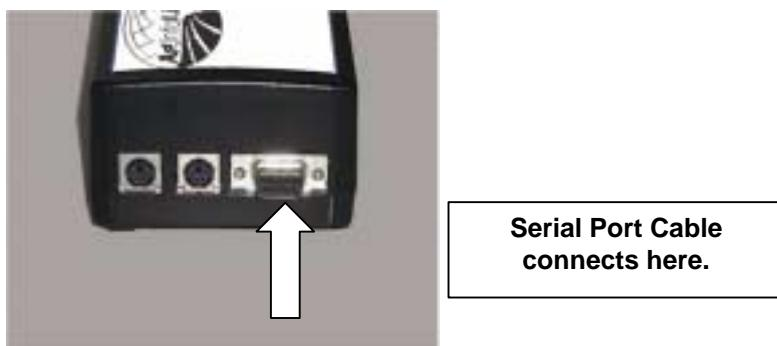

Figure 4
- Using the provided Serial cable, plug the appropriate end into the 9-pin port (DB9-F) on the Tag Tracker Base Station. (See Figure 4)